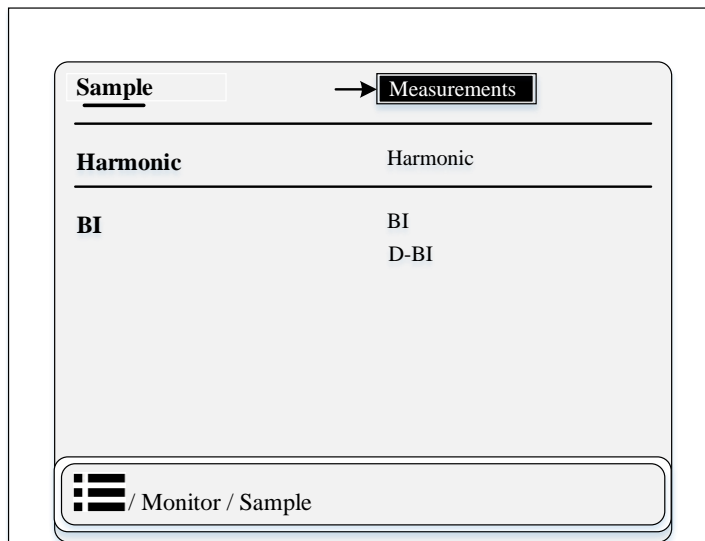

Figure 7.3.7 Overview Display of Monitoring Information Sub-functions
This section divided into three sub-parts and describe the information of real time monitoring data of PRS-753 line protection. This section only provides the sample, harmonics and BI data information. In this section user can easily access the real-time monitoring data view of relay through arrow keys. The overview display of monitoring information are shown in below figure 7.3.7.
This section divided into two sub-parts and describe the information of binary input (BI) of this IED seen in the above figure 7.3.7. This section only display all the binary input data. User can access this function through the following path: “Monitor > BI”.